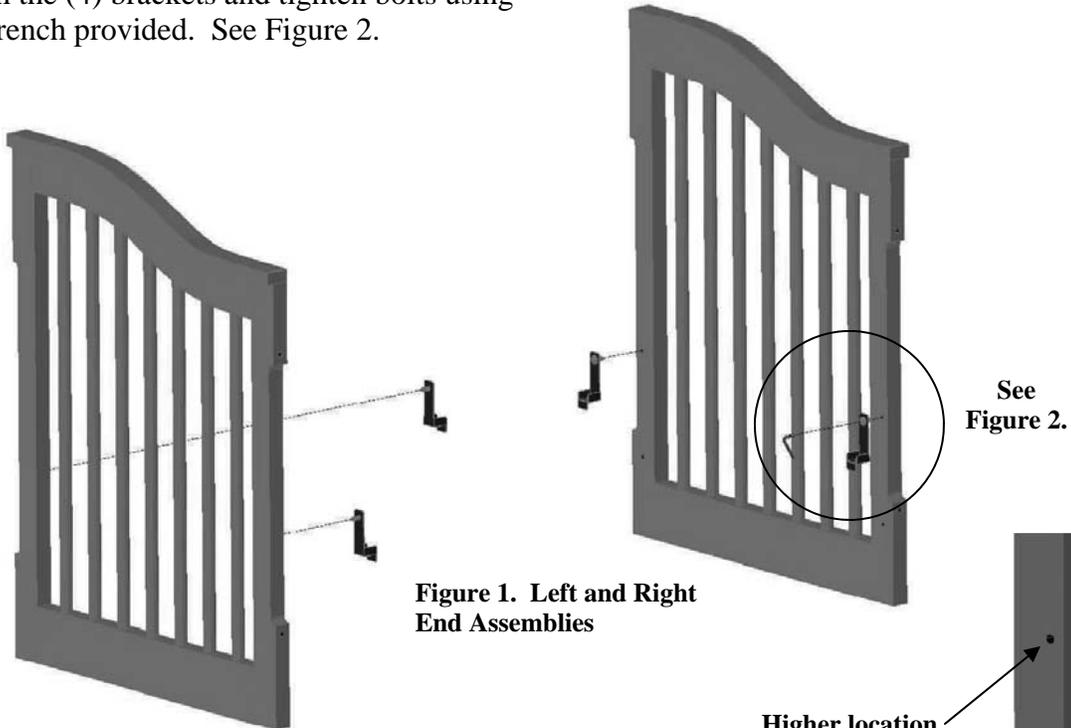

Figure 1. Left and Right End Assemblies
- Locate the (4) Mattress Platform Brackets with attached assembly bolts as shown in Fig. 1. Determine the high or low position of the mattress foundation (Fig. 3) and attach the brackets on both the left and right end section in the same height location. (This is very important to keep the foundation level and your child safe).